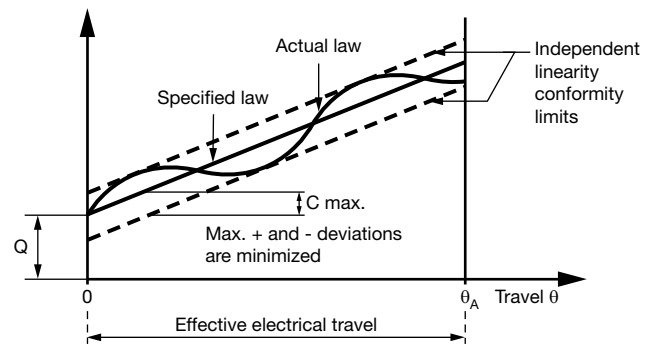

Fig. 4
4.5 - Independent linearity (best straight line) (see fig. 4)